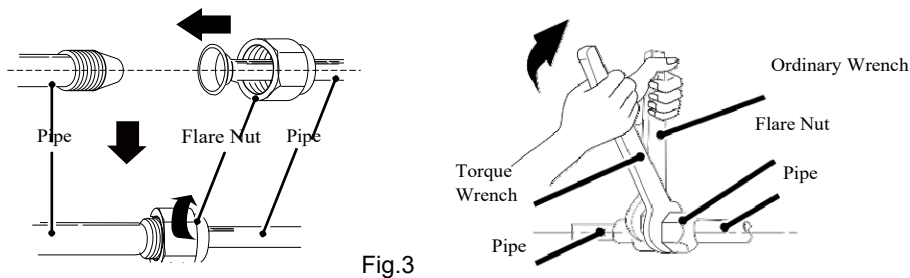

Fig.3
3. After that, tighten the screw by the torque wrench unit it clatters (as shown in Fig.3).